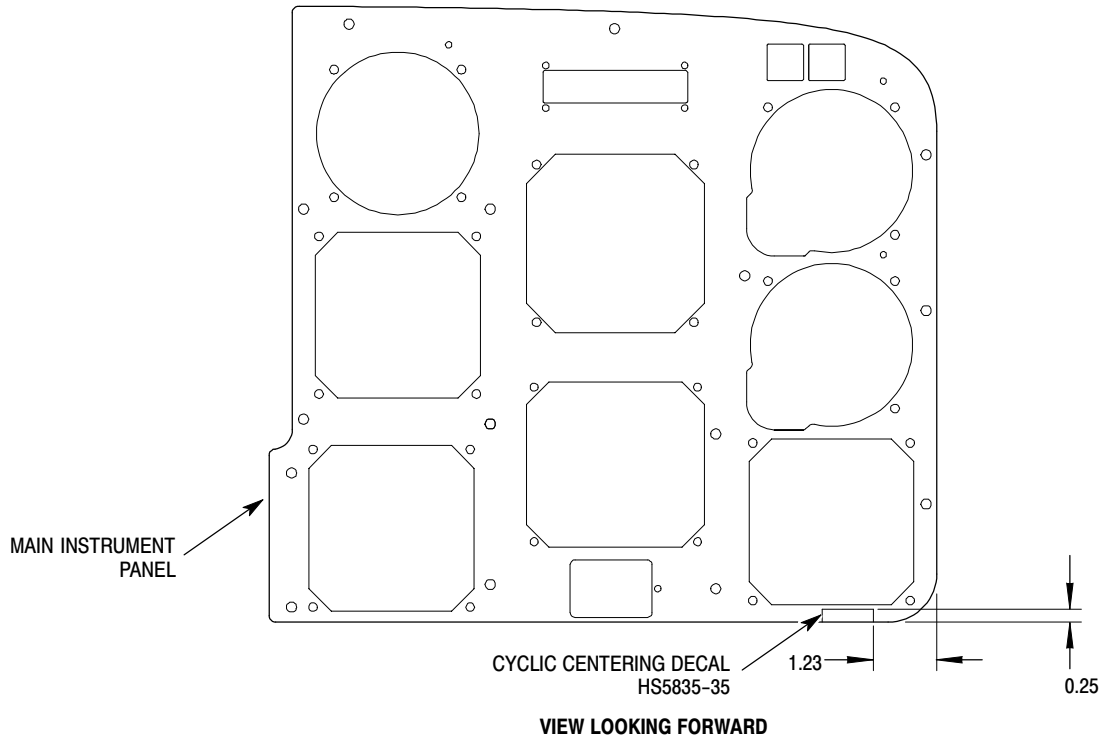

Figure 1. Cyclic Centering Decal Repositioning
- (2). Remove cyclic centering decal HS5835-35.
- (3). Install lateral anti-torque - drive link assembly 900C2010209-105 or 900CF010210 per instructions in the Rotorcraft Maintenance Manual (CSP-900RMM-2; Ref. Section 62-30-00).
- (4). Install cyclic centering decal HS5835-35 per instructions contained in the Rotorcraft Maintenance Manual (CSP-900RMM-2; Ref. Section 11-00-00) except locate as shown in Figure 1 of this Bulletin (ref. Page 3 of 3).
- (5). Perform a controls sweep check with a visual inspection of the rotating controls components above the mixer assembly to insure no interference was observed.